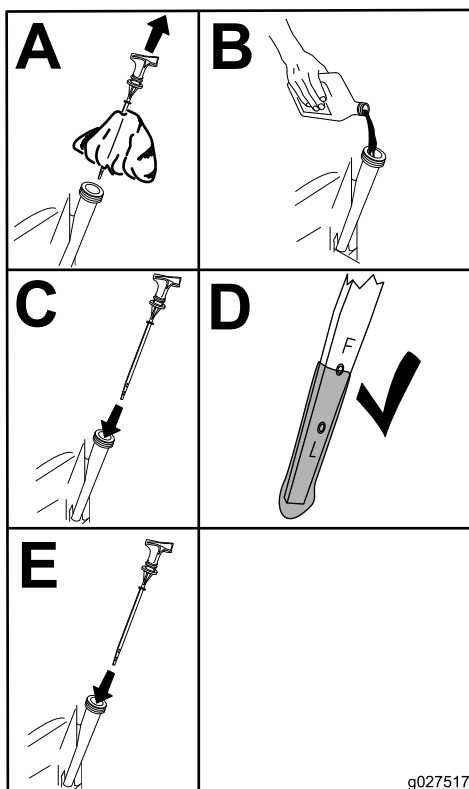

Figure 36
5. Slowly pour approximately 80% of the specified oil into the filler tube (Figure 36).